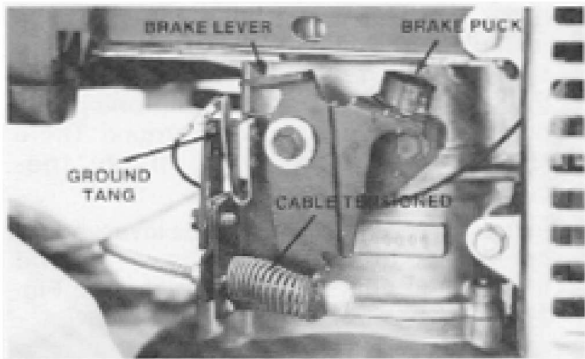

Figure 3-16
2. With the control bail tensioned (run position), the brake pad is pulled away from the flywheel and the brake lever is rotated away from the ground tang. See Fig. 3-16. The ground tang should not have continuity to ground. This can be tested by disconnecting the kill wire and testing the tang to ground continuity with a volt-ohmmeter.